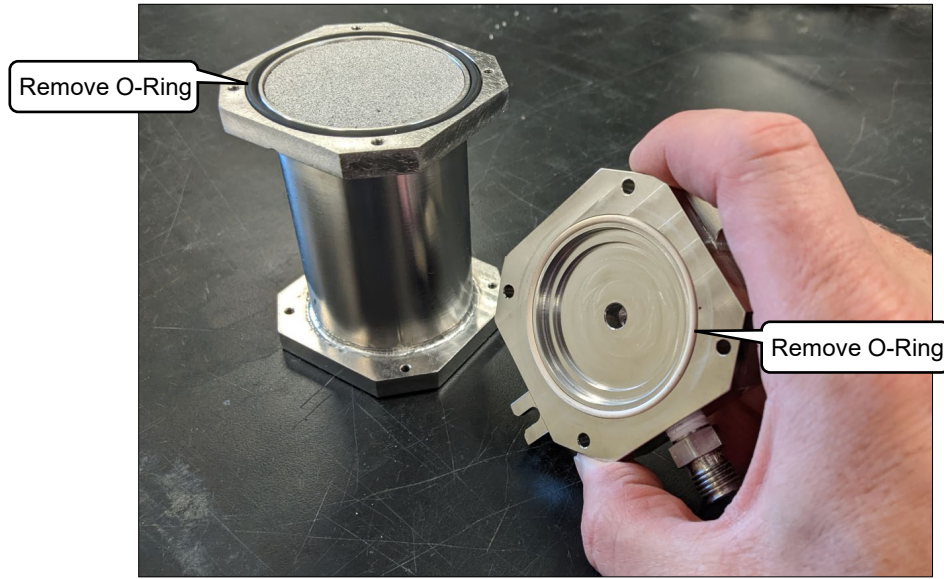

Figure 51: Bottom Cover and O-ring Removal
10. Remove the bottom cover and remove the two O-rings shown (Figure 51).